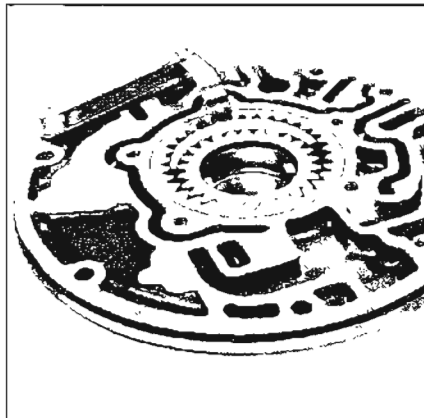

Figure 5-588
b. Driven gear I.D. to crescent clearance. Clearance should be .000-.0052. See Figure 5-588.